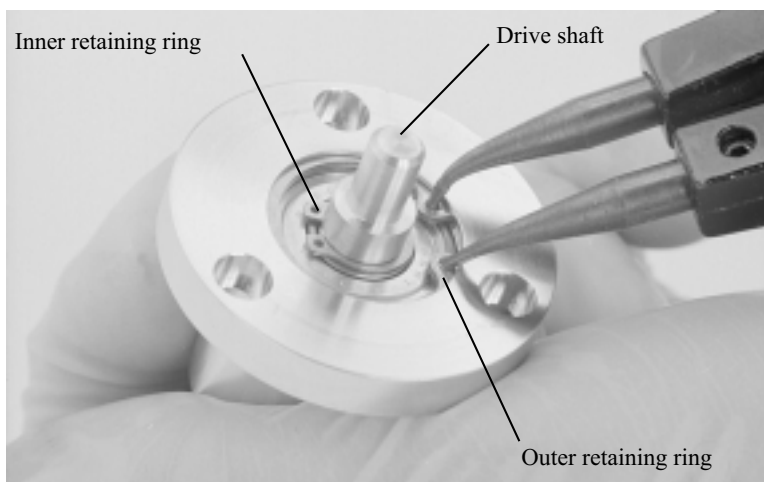

Figure 5-30. Removing the retaining ring that secures the outer crucible drive bearing in the bearing housing
Step 1: Hold the drive shaft assembly in one hand, with the shaft extending toward you, as shown in Figure 5-30. Using a snap-ring tool with the correct-sized prongs, remove the retaining ring that holds the outer drive bearing in place in the bearing housing.